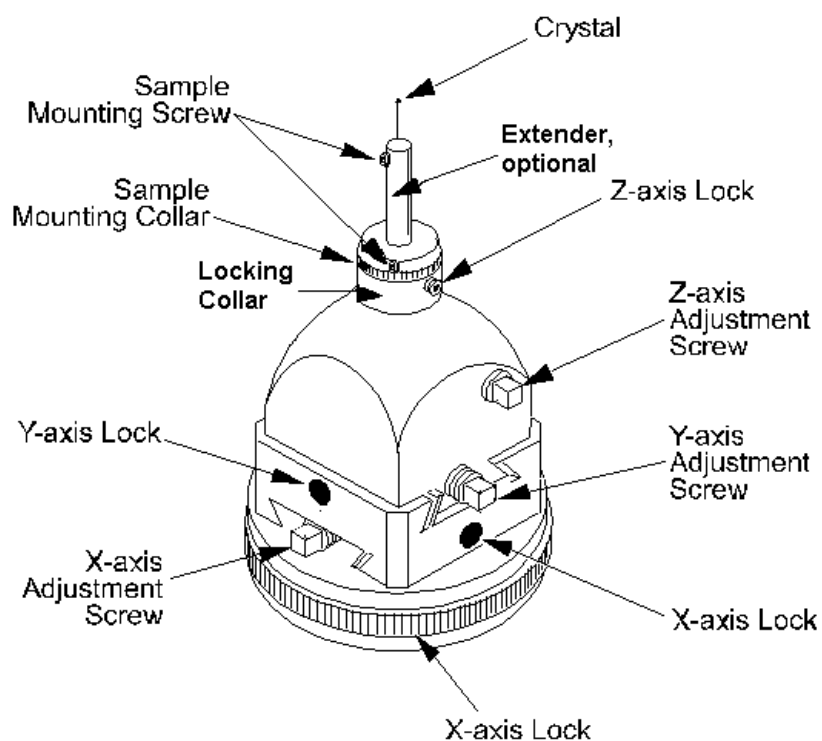
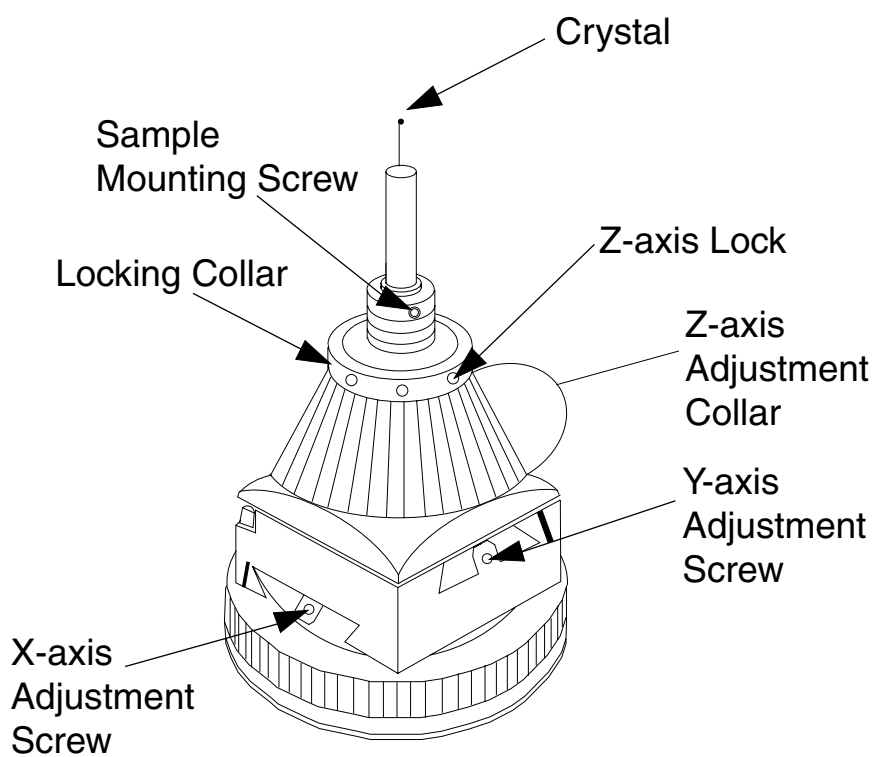

Figure 5.3 - Huber goniometer head in detail
Figure 5.4 - Standard goniometer head in detail
2. Click the Center button. Move the crystal so that it is centered in the microscope reticle by adjusting the X- or Y- axis translation adjustment screw that is perpendicular to the microscope axis and facing you (see Figure 5.3 and Figure 5.4).